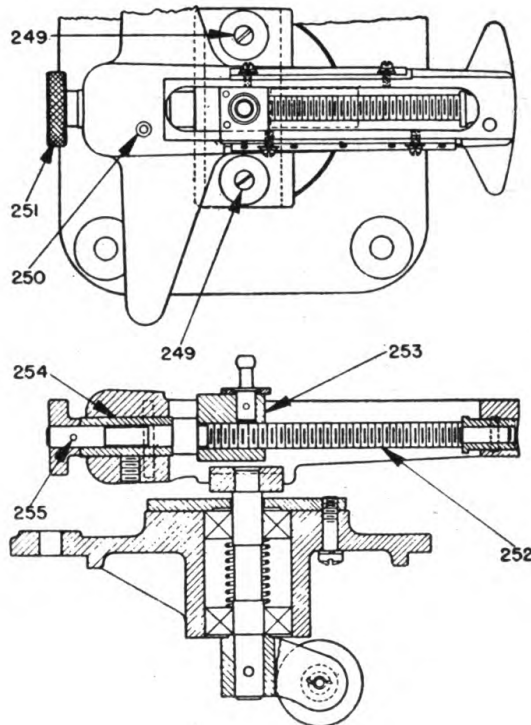

FIGURE 13.
c. If target speed setting screw turns with difficulty, proceed as follows. With the pantograph off, remove the course indicator (miniature airplane) from the speed corrector assembly, figure 13, by removing two screws 249. Drive out pin 250 by tapping the end